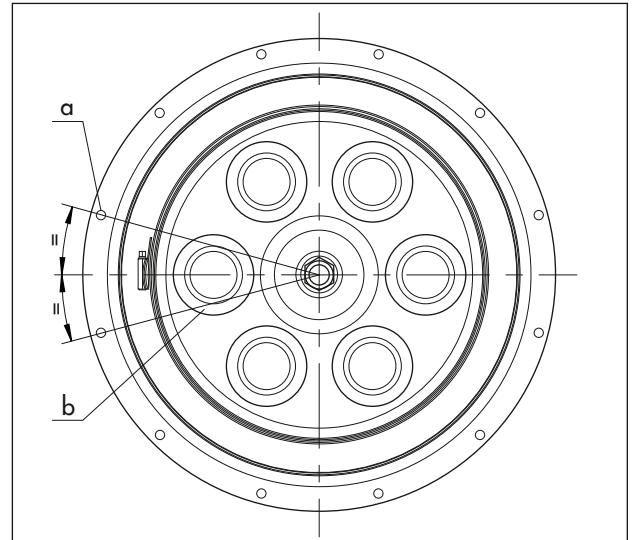

Fig. 24: Aligning the diaphragm
5. Mount the new diaphragm (A4). Make sure that the diaphragm is correctly aligned with the diaphragm plate. The imaginary line through two opposing recesses for springs on the diaphragm plate must be aligned centrally between two bolting holes in the diaphragm (see Fig. 24).
and hose clamp (A6). Place and align the compressor (A19) beneath the clamp's latch (see Fig. 24). Tighten the screw of the latch using a suitable tool. Observe tightening torques.
6. Mount the new diaphragm (A4). Make sure that the diaphragm is correctly aligned with the diaphragm plate. The imaginary line through two opposing recesses for springs on the diaphragm plate must be aligned centrally between two bolting holes in the diaphragm (see Fig. 24).
350 and 700 cm²: Turn the screw on the latch of the hose clamp until only a gap of just a few millimeters remains between the diaphragm (A4) and hose clamp (A6). Place and align the compressor (A19) beneath the clamp's latch (see Fig. 24). Tighten the screw of the latch using a suitable tool. Observe tightening torques.